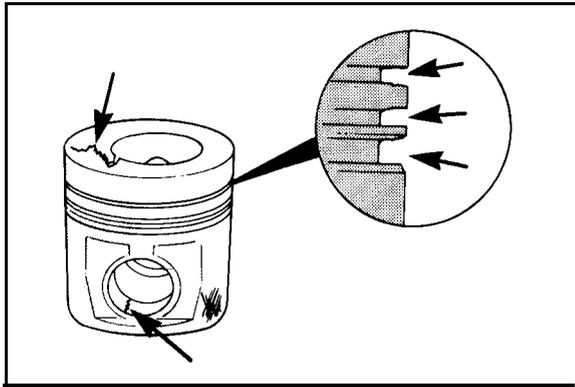

Figure 6-9
5. Inspect piston for damage and excessive wear at locations shown by arrows (Figure 6-9).